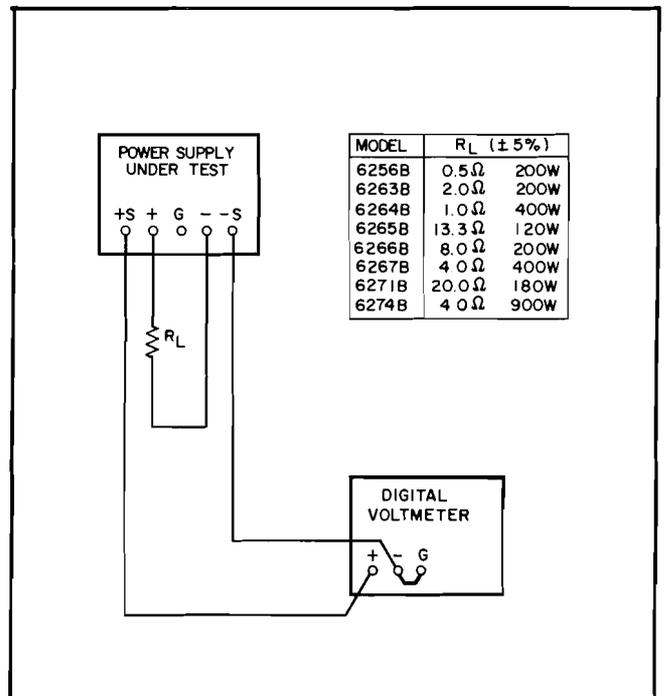

Figure 5-1. Constant-Voltage Load Regulation Test Setup
- Connect load resistor ( $R_L$ ) indicated in Figure 5-1 across output terminals of supply.
- Connect test setup shown in Figure 5-1.
- a. Connect test setup shown in Figure 5-1.
- Connect load resistance and digital voltmeter as illustrated in Figure 5-1.